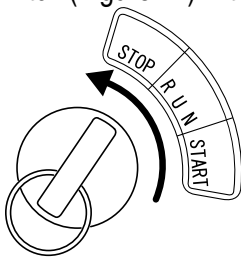

Figure 24. Key Switch (STOP Position)
2. Place the key switch (Figure 24) in the **STOP** position.